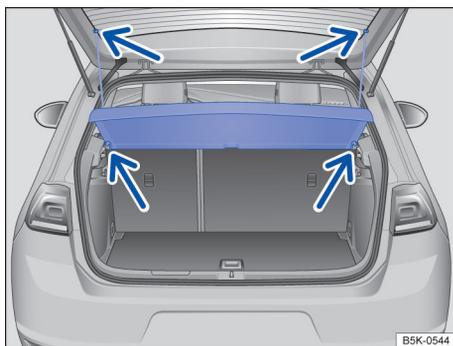

Fig. 141 In the luggage compartment: Installing and removing the luggage compartment cover.
- Unhook the supporting cords from each side of the trunk lid → **fig. 141** (top arrows).
- Push the luggage compartment cover upward from below → **fig. 141** (bottom arrows) until it releases from the side brackets.
- Press the luggage compartment cover into the side brackets from above → **fig. 141** (bottom arrows).
- Hook the supporting cords onto the trunk lid → **fig. 141** (top arrows).